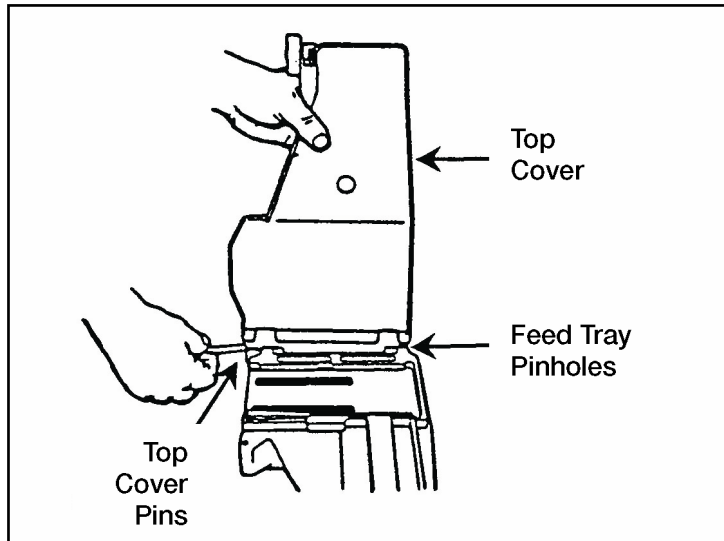

Figure 071-030-0001-20. Attachment of the top cover assembly
- (4) Insert the tabs into the slots. Drop the feed slide assembly into the tray and move it slightly to ensure engagement.
- f. Attach the top cover assembly (figure 071-030-0001-20).